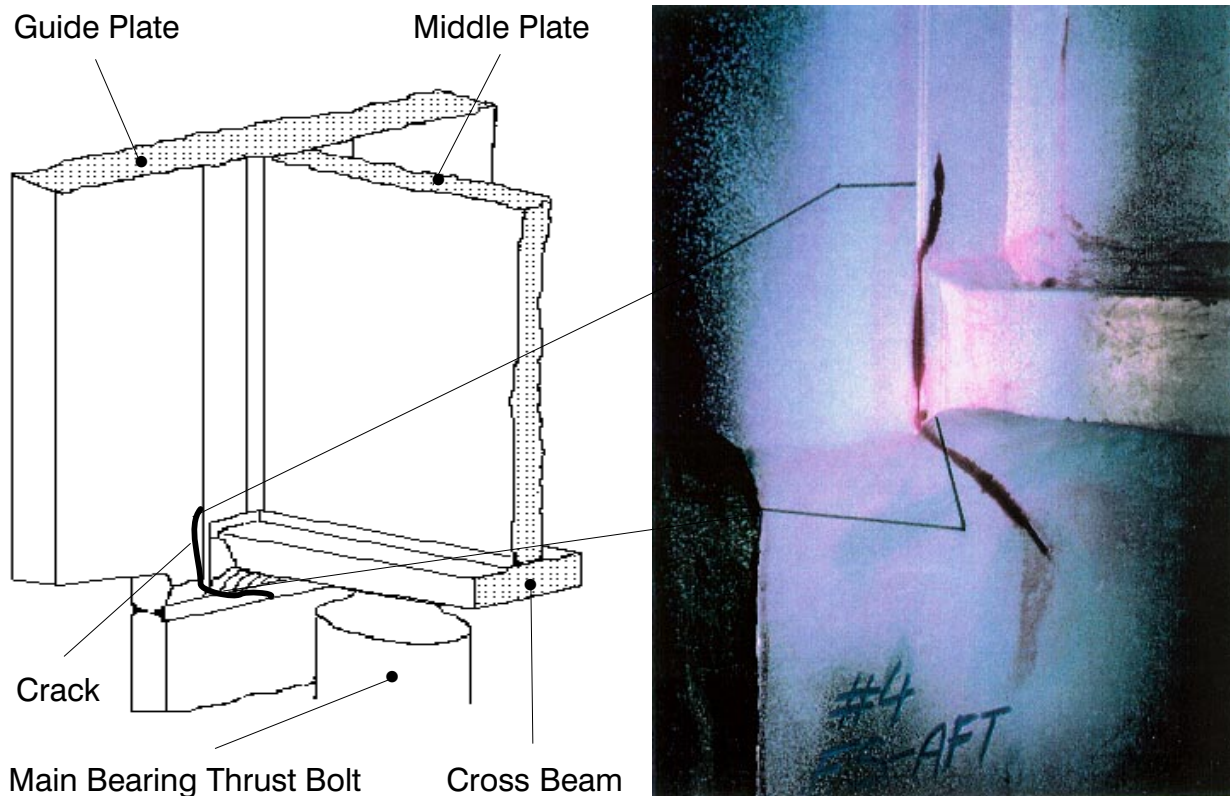

Fig. 1 Crack in the Corner of the Cross Beam
- In the corner of the cross beam for the thrust bolts and the guide plate (rail) [RTA 84, RTA 62, RTA 84M] Fig. 1
5.4. Crack at the Corner of the Cross Beam (Fig. 1)